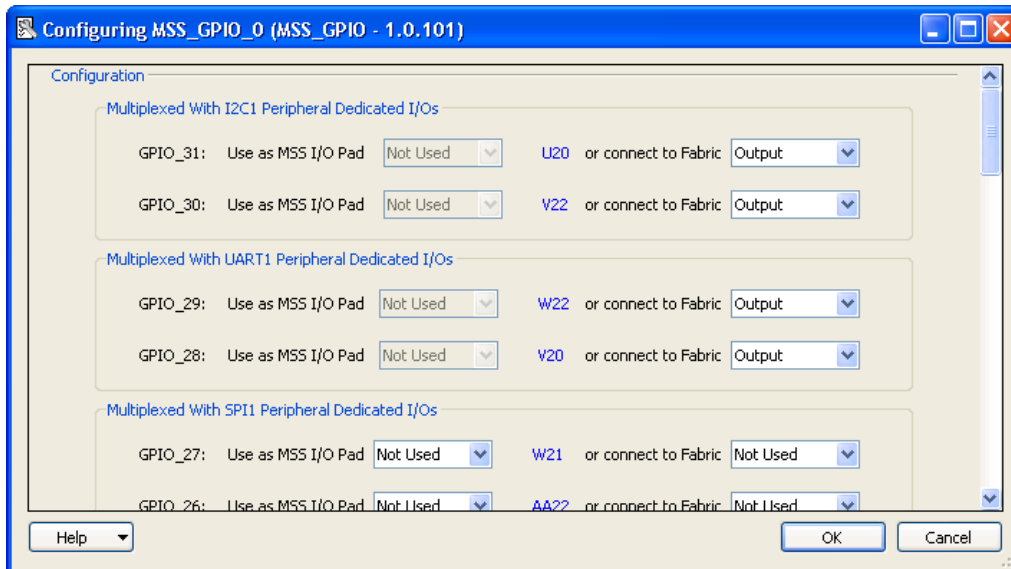

Figure 59 · Configure MSS\_GPIO\_0
1. Double-click the GPIO block in the MSS component, configure as shown in Figure 59 , and click OK.